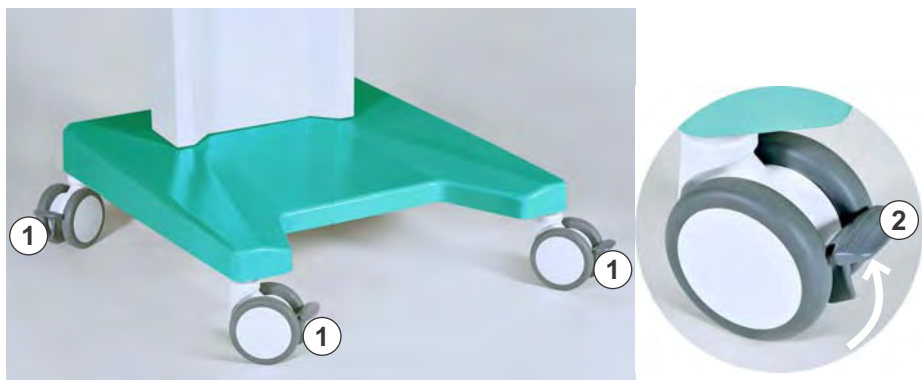

Fig. 3-2 Brakes on casters
1. Release brakes of all casters (Fig. 3-2, ①) before moving machine. Lift lever (② , arrow) to release a brake.